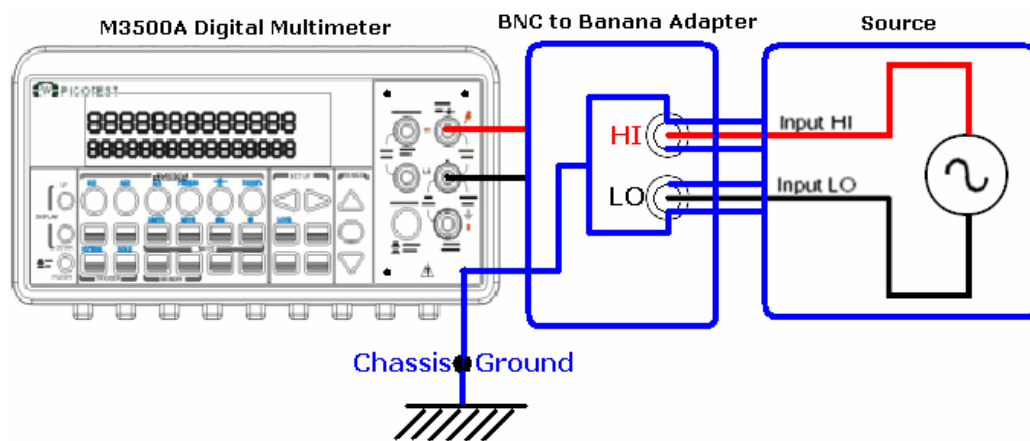

Figure 2-16
- The chassis ground terminal is used for shielding the noise from the nature, especially when users want to get a very small signal via the application of a BNC-to-Banana Adapter. Please refer to the Figure 2-16.